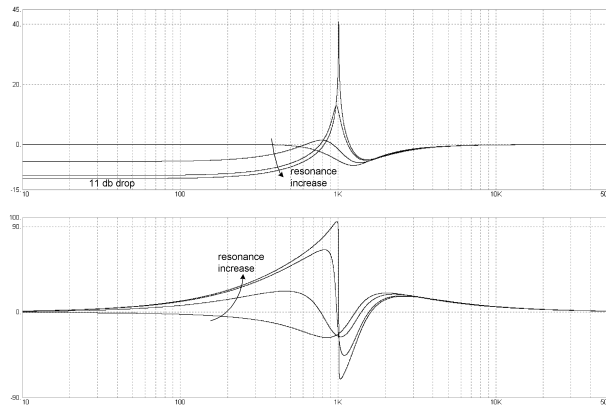

Fig.8.5.25 Allpass
Please note: In contradiction to the figures fig. 8.5.2 – fig. 8.5.25, the output level is **-10 db lower than the input level**. If e.g. a lowpass characteristic is selected, fully opened filter ([frequency]-knob in fully clockwise position) and no resonance ([resonance]-knob in fully counter clockwise position), the output level would be **-10 db** attenuated compared to the input level. This affects the filters in general and not only the output sockets (18)/(19).